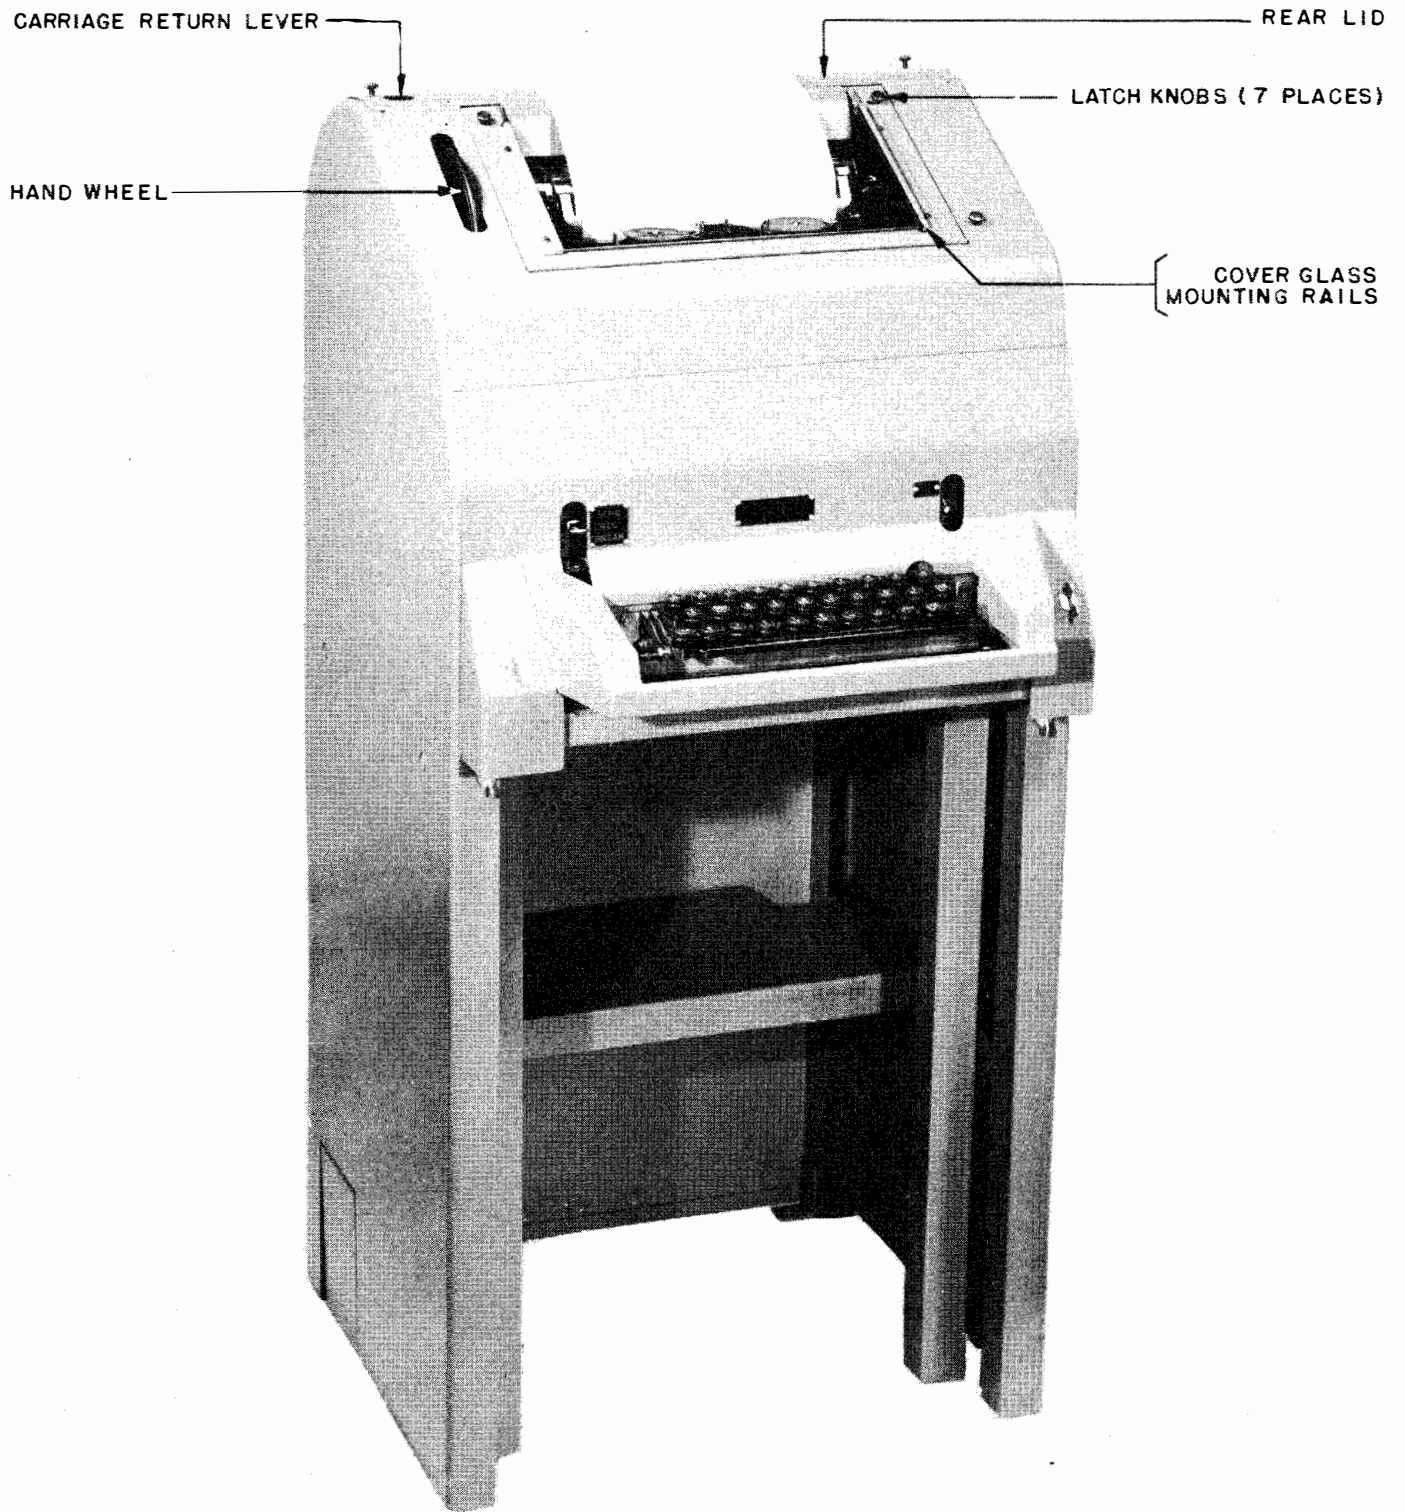

FIGURE 1
The Teletype apparatus cabinet AC203BJ accommodates a Model 15 send-receive printer (with combined base-keyboard) and provides electrical service facilities. The cabinet is constructed of welded metal and is finished in a smooth dark gray enamel. Latches are provided to hold the lids and the top shelf in either the operating or servicing positions. See Figure 1.
h. A lever operative through an opening in the rear lid is provided for manually returning the printer carriage with the lid closed. See Figure 1.
i. A large hand wheel is furnished with each cabinet for attachment to the Model 15 printer platen shaft to permit manual paper feeding without opening the cabinet. See Figure 1.
(4) Assemble the Model 15 printer in accordance with Teletype Specification S-5585 which accompanies the typing unit.
(5) Slide the top shelf and frame fully back into the cabinet and turn the fasteners. Unlatch and close the front top lid and see that the hand wheel (Figure 1) is approximately centered (right to left) in the slot in the top front lid. If not centered, loosen the hand wheel set screw and position the hand wheel. Tighten the set screw and lock nut.
a. FRONT COVER GLASS ADJUSTMENTS See Figure 1.
b. FRONT TOP LID AND REAR LID LATCH TENSION See Figure 1.
c. CARRIAGE RETURN LEVER SPRING TENSION See Figure 1.